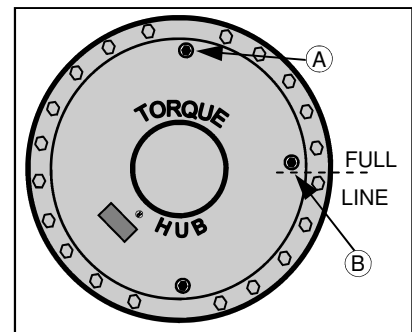

FIG 115-2
**OIL LEVEL**– Each wheel hub should maintain a level of half full at all times. Less than that would limit lubrication and over that would cause overheating and damage. To check the oil level position the hub so that there is a plug at the 12 O'clock position (fig. 115-2, item A) and the another at the 3 or 9 O'clock position (fig. 115-2, item B). Remove the lower plug (fig. 115-2, item B), if no oil comes out, the oil level is too low. Check the oil level every 100 hours.